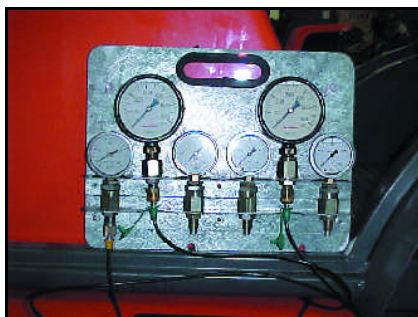

fig. 2
- Una vez conectado el manómetro, poner en marcha la máquina y leeremos la presión a la que está trabajando el circuito hidrostático hacia atrás. Si situamos la máquina en una fuerte rampa y la frenamos acelerando a fondo, el manómetro nos indicará la presión máxima de trabajo de la bomba que debe ser: (fig. 2)
- After joining the manometer, start the machine and read the working pressure of the hydrostatic group for backward motion. If we place the machine on a steep ramp and brake it by boosting it to the top, the manometer will read the pump's maximum working pressure,(fig. 2) which should be of:
- After joining the manometer, start the machine and read the working pressure of the hydrostatic group for forward motion. If we place the machine on a steep ramp and brake it by boosting it to the top, the manometer will read the pump's maximum working pressure,(fig. 2) which should be of: